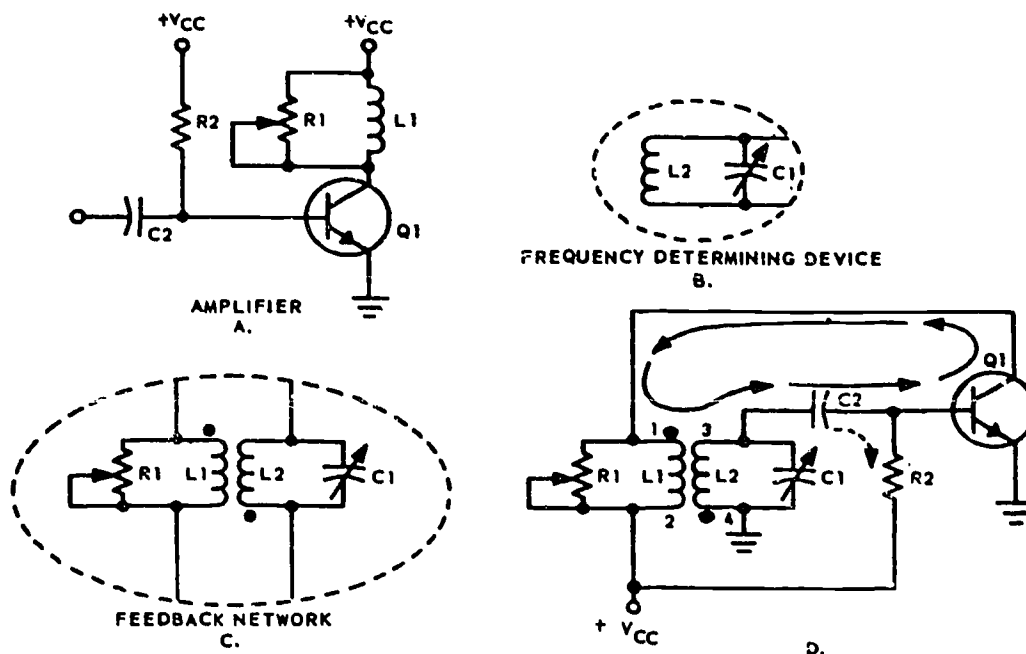

Figure 2-6. Oscillator circuit.
Figure 2-6, A, shows a conventional amplifier. R2 provides the forward bias for Q1; C2 is a coupling capacitor; and L1 and R1 form the collector-load impedance. This is a common-emitter configuration which gives a 180° shift between the base and collector. Figure 2-6, B, shows a frequency-determining device composed of inductance L2 and capacitance C1. C1 is the tuning device used to adjust the resonant frequency to the desired value. Figure 2-6, C, is the feedback network which uses collector lead L1 as the primary and L2 as the secondary windings of a coupling transformer to provide 180° phase shift. Variable resistor R1 controls the amount of current through L1. With R2 adjusted for maximum resistance, most of the current flows through L1. The transformer now couples maximum signal into the tank circuit. This represents a large feedback amplitude. If R1 is adjusted for a smaller resistance, less current flows through L1, and less energy is coupled to the tank circuit; therefore, feedback amplitude decreases. R1 is adjusted so that the L1 current is adequate to sustain tank oscillation.
Figure 2-6, D, shows the complete oscillator circuit. By connecting the feedback network through coupling capacitor C2 to the base of Q1, we have a "closed loop" for feedback (shown by the solid arrows). Let's verify that the feedback is regenerative:
Figure 2-6, D, fulfills the requirements for an oscillator: amplification, a frequency-determining device, and regenerative feedback. The schematic shows a "tuned base" oscillator because the FDD is in the base circuit. (If the FDD were in the collector circuit with C1 in parallel with L1, it would be a "tuned collector" oscillator.) This particular circuit is an Armstrong oscillator. A transformer is used, and the inductive feedback adjusted by R1 is just enough to "tickle" the circuit to sustain oscillation. With this operation, L1 is called a *tickler coil*.
Refer to figure 2-6, D, as we discuss the circuit operation. When V_{CC} is applied to the circuit, a small amount of base current flows through R2, which sets forward bias on Q1. This forward bias causes collector current to flow from ground through Q1 and through L1 to $+V_{CC}$. The current through L1 develops a magnetic field which induces a voltage into the tank
1. Refer to figure 2-6, B. _____ and _____ are the frequency-determining device.
2. Refer to figure 2-6, C. _____ is adjusted so that the _____ through L1 is adequate to sustain tank oscillations.
3. Refer to figure 2-6, D. The negative collector signal is applied to _____ of the transformer, which is connected so that there is a _____ phase shift between leads 1 and _____.
4. Refer to figure 2-6, D. With Q1 conducting harder, more current flows through _____, a larger voltage is induced into _____, and a larger _____ signal is coupled back to the base of Q1.